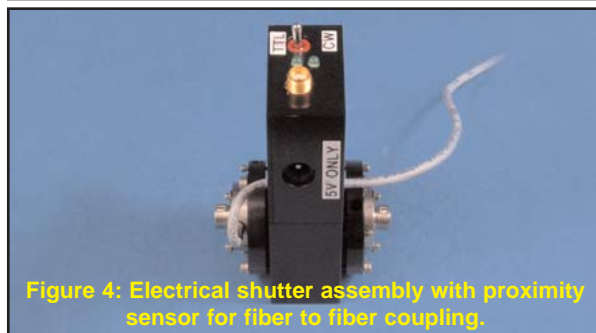

Figure 4: Electrical shutter assembly with proximity sensor for fiber to fiber coupling.
- Low power shutters installed in between FC receptacles involving metal beam blocker, no heat-dump - See Figure 4